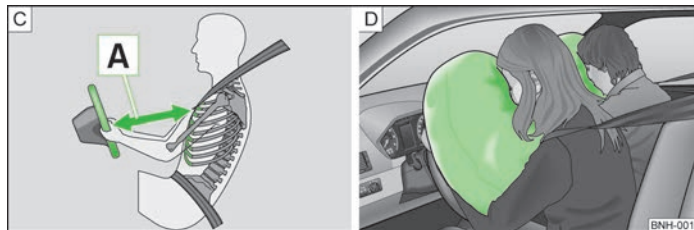

Fig. 83 Safe distance to steering wheel/inflated airbags.
If the airbags are deployed, the airbags are filled with a propellant gas and inflated in front of the driver and front passenger » Fig. 83 - [D]. The forward movement of the driver and of the front passenger is cushioned when they make contact with the fully inflated airbag and the risk of injury to head and chest is thus reduced.
- For the driver and front passenger, it is important to maintain a distance of at least 25 cm to the steering wheel or dashboard **A** » Fig. 83. Not maintaining this minimum distance will mean that the airbag system will not be able to properly protect you – hazard! The front seats and the head restraints must always also be correctly adjusted to match the body size of the occupant.